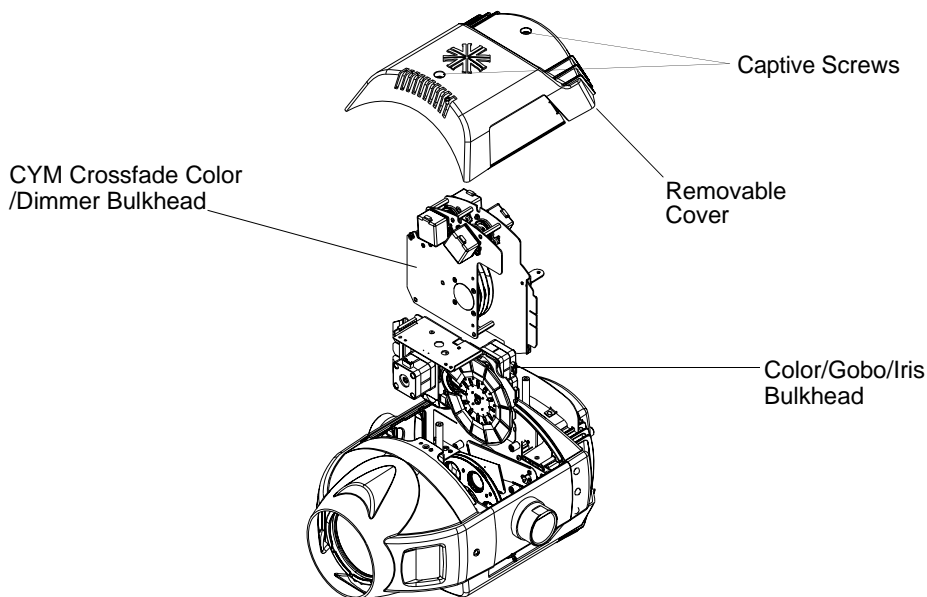

Figure 2-3: Color/Gobo/Iris Bulkhead Replacement
- Step 2. At top head cover, gradually loosen two 8-32x1/2" captive screws and remove cover. (Cover remains attached by tether.) **Figure 2-3.**
- Step 2. At top head cover, loosen two captive screws and remove cover as shown in Figure 2-3 (it will remain attached by tether).